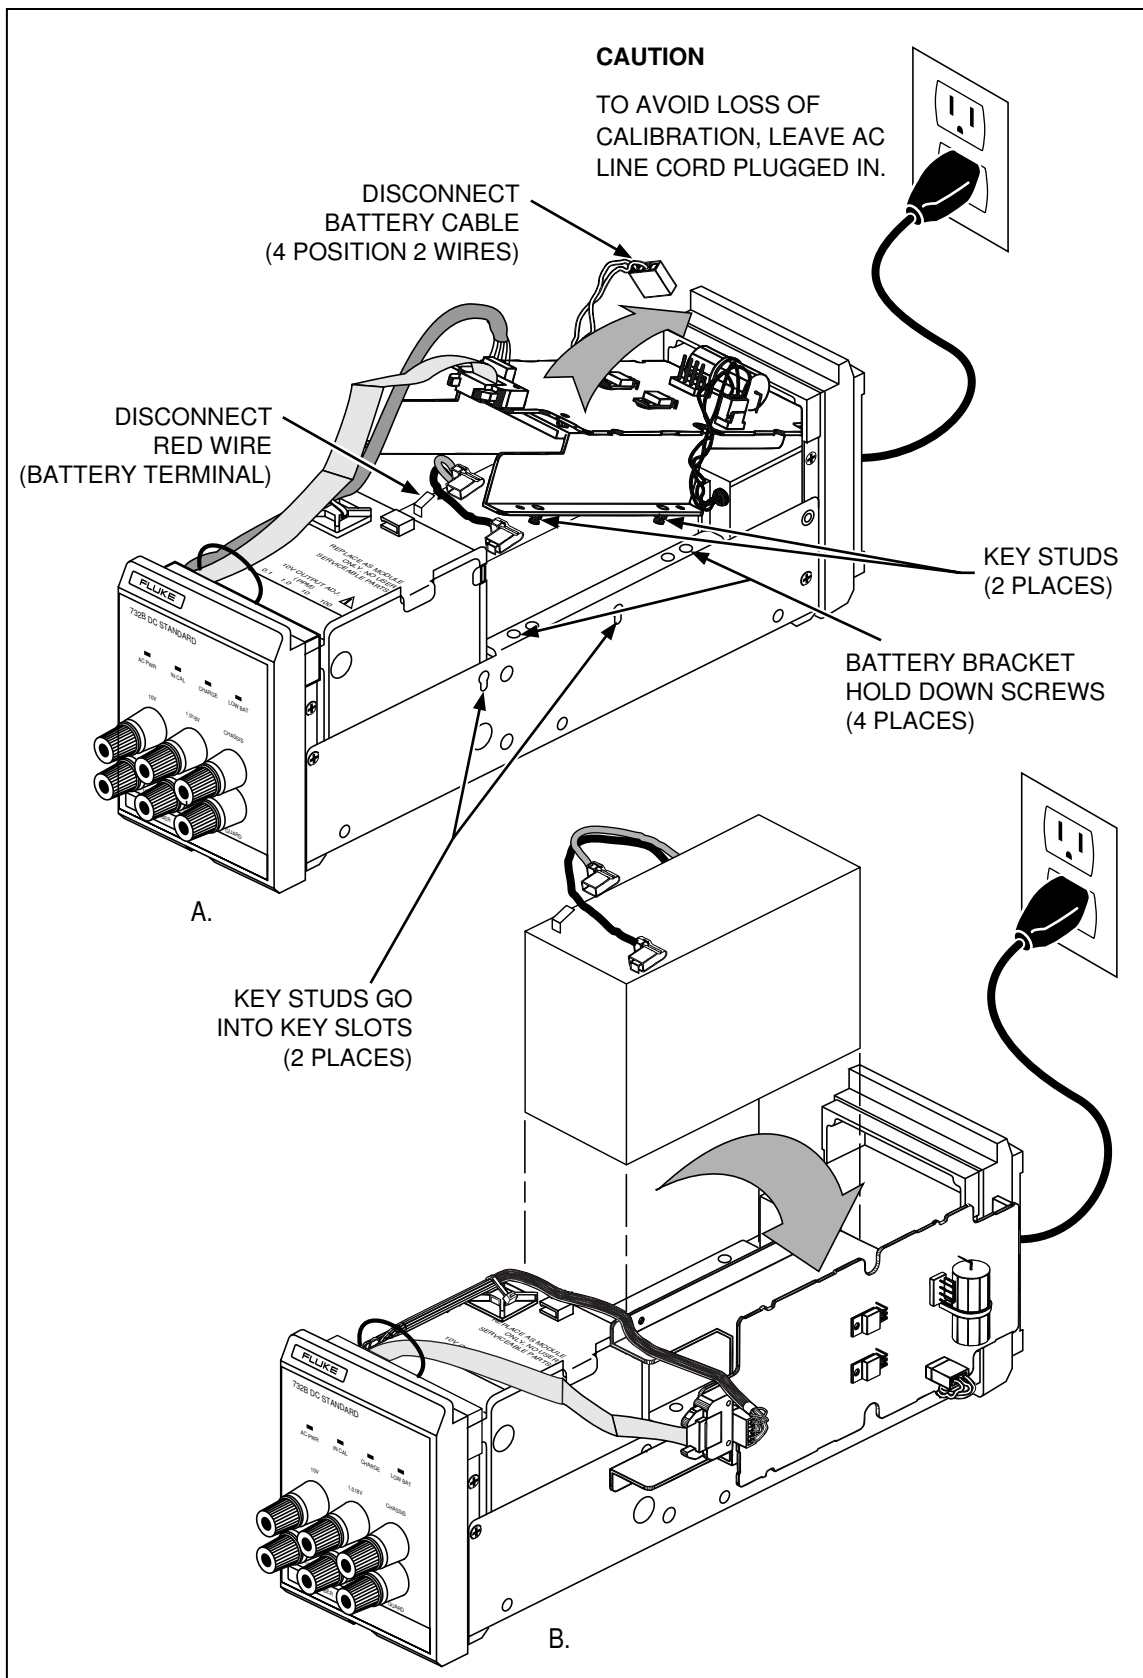

Figure 5-4. Replacing the Battery
The correct battery is available from Fluke by ordering Fluke P/N 887042. Refer to Figure 5-4 and proceed as follows to replace the battery:
9. Lift the front edge of the battery hold-down bracket as shown in view A of Figure 5-4.
10. Pull the battery hold-down bracket forward until it clears the rear bezel, then rotate it 90° and position it in the keyholes as shown in view B of Figure 5-4.